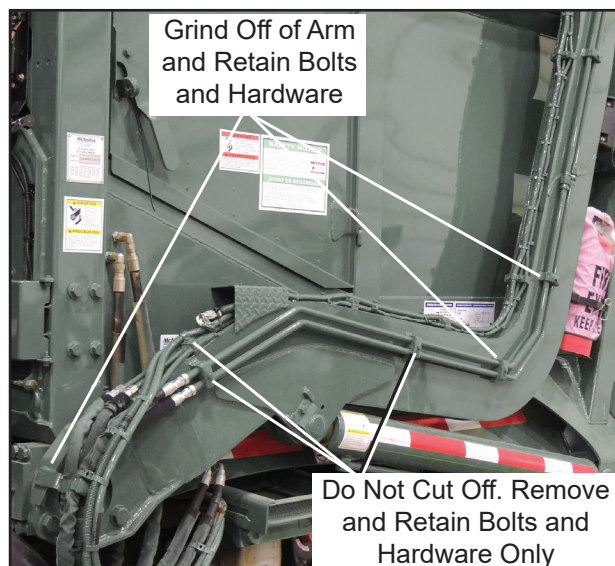

Figure 2
6. Use a cutting wheel to cut off the mounting brackets on the arm (Figure 2). Be careful to not nick or cut hydraulic lines or cables. The curb side arm will likely not have hydraulic lines, but will have some cabling.
7. Do not cut off, only remove and retain the bolts and hardware for the remaining brackets as shown in Figure 2. The curb side arm will likely not have hydraulic lines, but will have some cabling. Remove the bolts and hardware as needed.